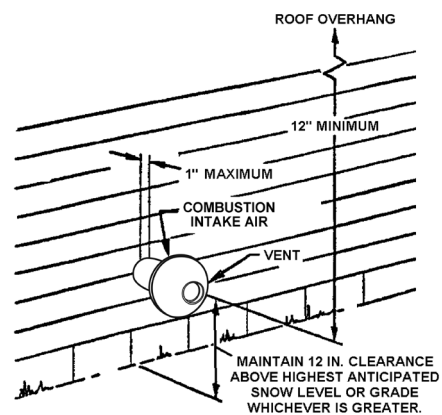
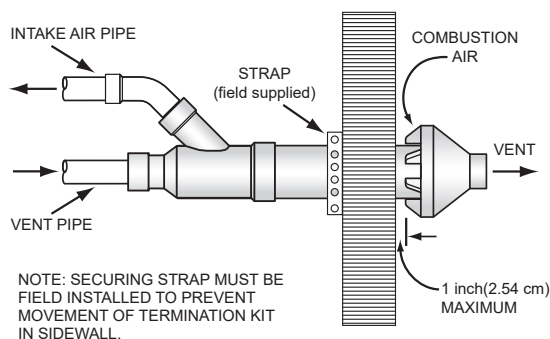
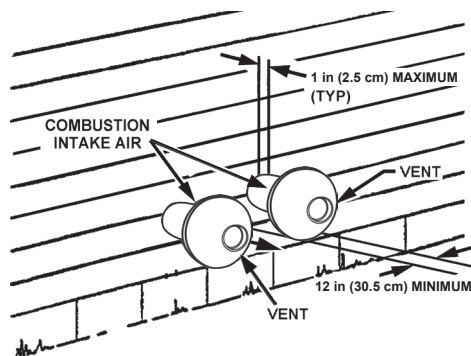
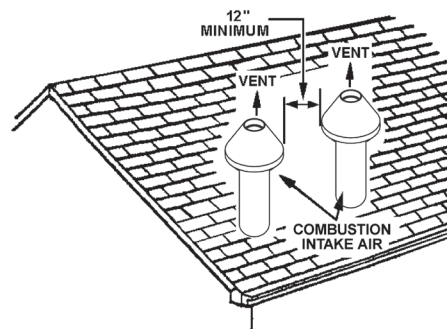

Figure 35. Installation Side Wall Termination
Figure 36. Sidewall Concentric Pipe Orientation and Attachment
Figure 37. Concentric Vent Terminations - Horizontal Direct Venting
Figure 38. Concentric Vent Terminations - Vertical Direct Venting Through Roof
- B. Ensure the Y connection is oriented so the air intake side of Y is on top. See **Figure 35** (page 36).
Note: Ensure termination location clearance dimensions are as shown in **Figure 35**, **Figure 36** (page 37) and **Figure 37** (page 37). When extending the length of the 4" pipe, the added length beyond 21-1/8" must be deducted from the maximum equivalent length of vent pipe.
6. Cement heater combustion-air and vent pipes to concentric vent termination assembly. See **Figure 36** for proper pipe orientation and attachment.
When two or more water heaters are direct vented with concentric vent terminations near each other, each water heater must be individually vented. **NEVER** common vent this water heater. When two or more water heaters are direct vented using concentric vent terminations, the water heaters may be vented as shown in **Figure 37** and **Figure 38**.